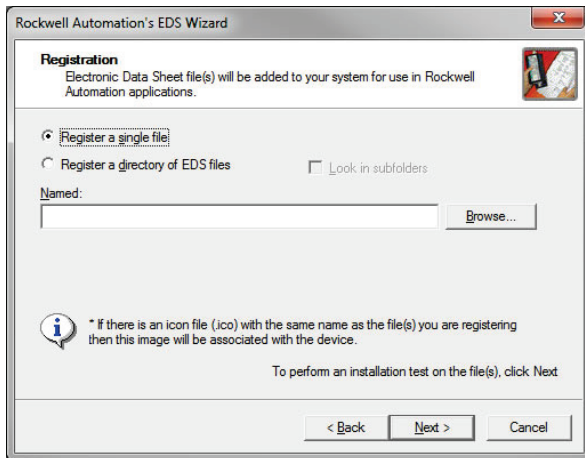

Figure 34: EDS Registration
- 4) The "Registration" dialog will appear. Refer to Figure 34. Click "Browse", select the interface card's EDS file, and click "Next".